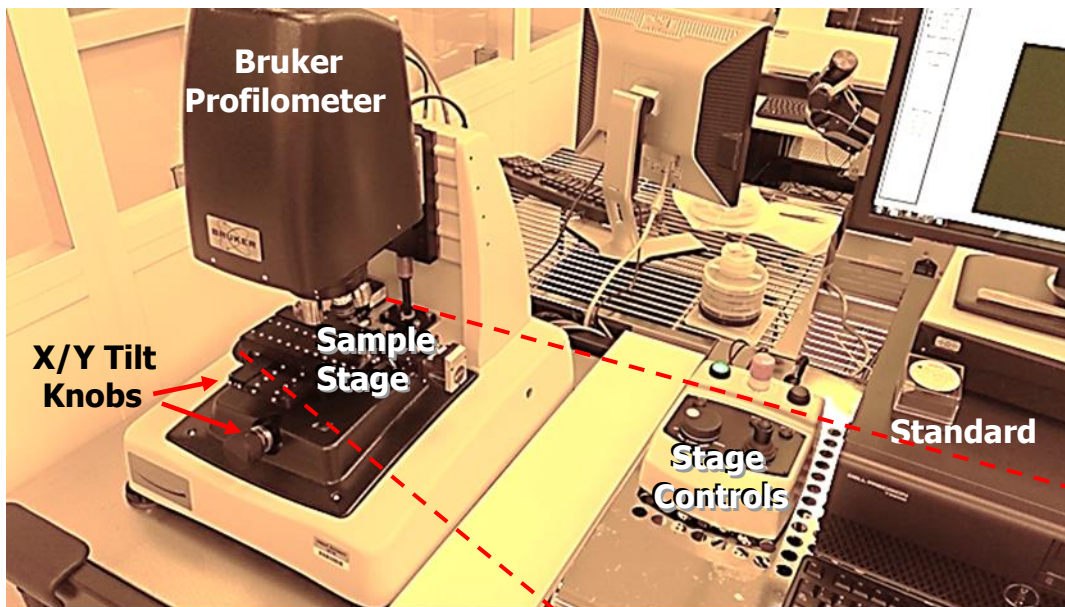

Figure 1
- 4.11. Adjust the X and Y Tilt knobs (Figure 1) until there are 10 to 12 horizontal (or vertical) fringe lines. Off-angle fringe lines will produce a poor measurement result. *Do Not Force the tilt knobs*, they should move free and easy.